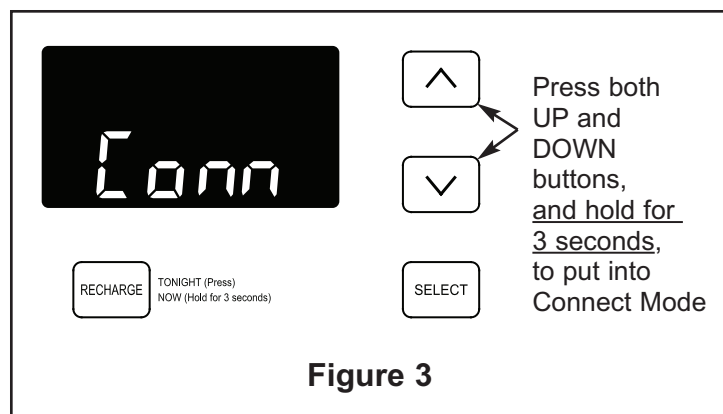

Figure 3
14. Place the controller into Connect Mode, as shown in Figure 3. “Conn” appears in the display.